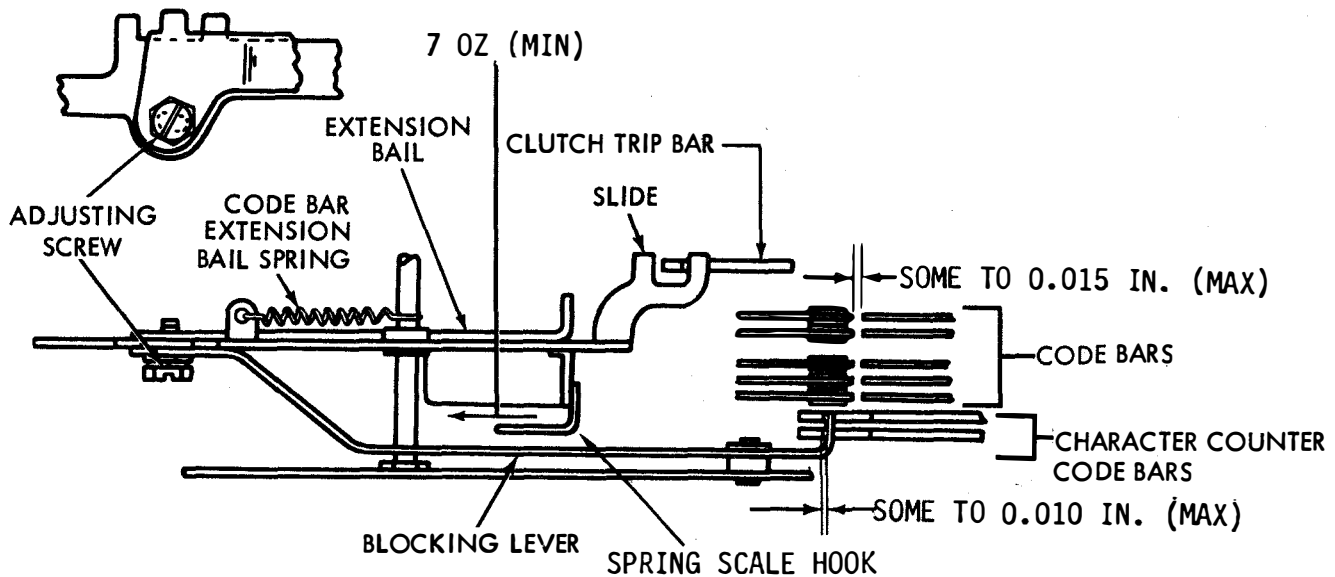
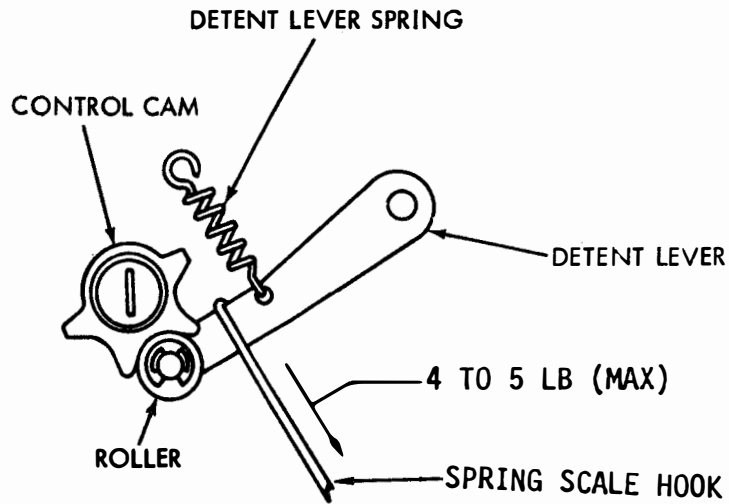

Figure 6-130. Code Bar Extension Blocking Assembly and Extension Bail Spring
Figure 6-131. Detent Lever Spring
(a) Refer to Figure 6-130.
(10) Code Bar Extension Bail Spring. Adjust as follows:
- (a) Refer to Figure 6-130.
(11) Detent Lever Spring. Adjust as follows:
- (a) Refer to Figure 6-131.